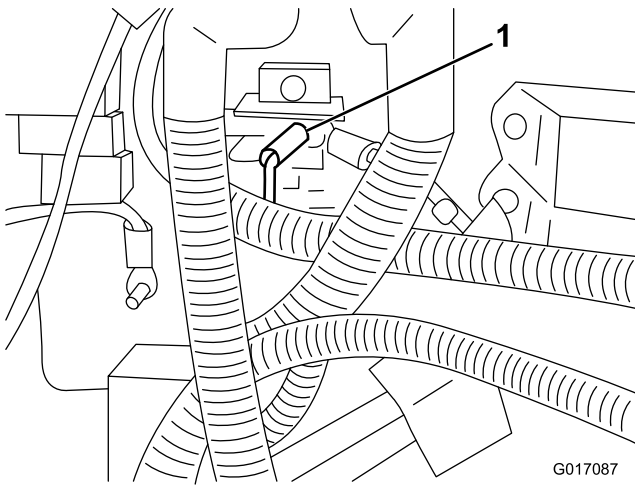

Figure 9
12. Connect the black wire with a ring terminal to the ground terminal block (Figure 9).